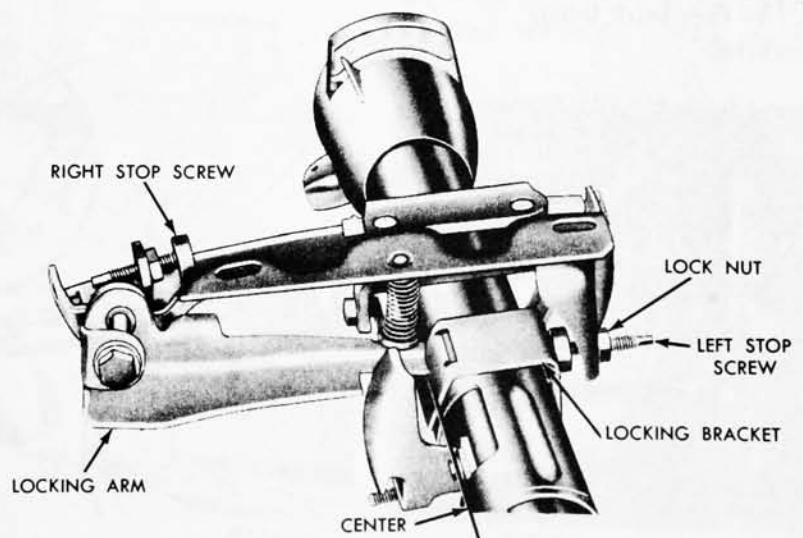

FIG. 12—Steering Column Stop Adjustments
3. Adjust the stop screw as required to center the locking arm on the locking bracket (Fig. 12).